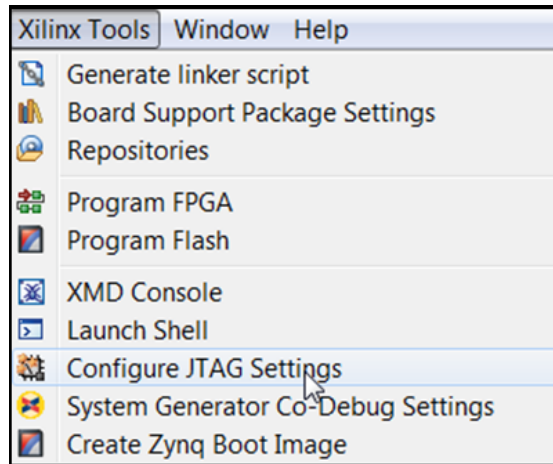

Figure 51: Configure JTAG Settings
1. Click **Xilinx Tools** and select **Configure JTAG Settings** (Figure 51).